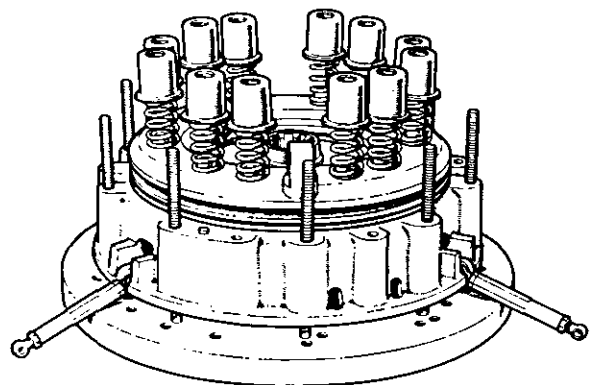

Figure 41. ASSEMBLING TRANSMISSION CLUTCH
4. Fit the transmission clutch thrust springs on pressure plate and, after lightly smearing the inside of cover apertures with anti-scuffing paste, align assembly marks and place cover over springs, taking care that the cover does not bind on the pressure plate lugs. Screw a nut, *with a flat washer underneath*, on each of the nine long bolts. Tighten nuts evenly and by diametrical selection, until the assembly is clamped firmly against baseplate. Replace and fully tighten the short bolts attaching cover to separator housing. Figure 41.